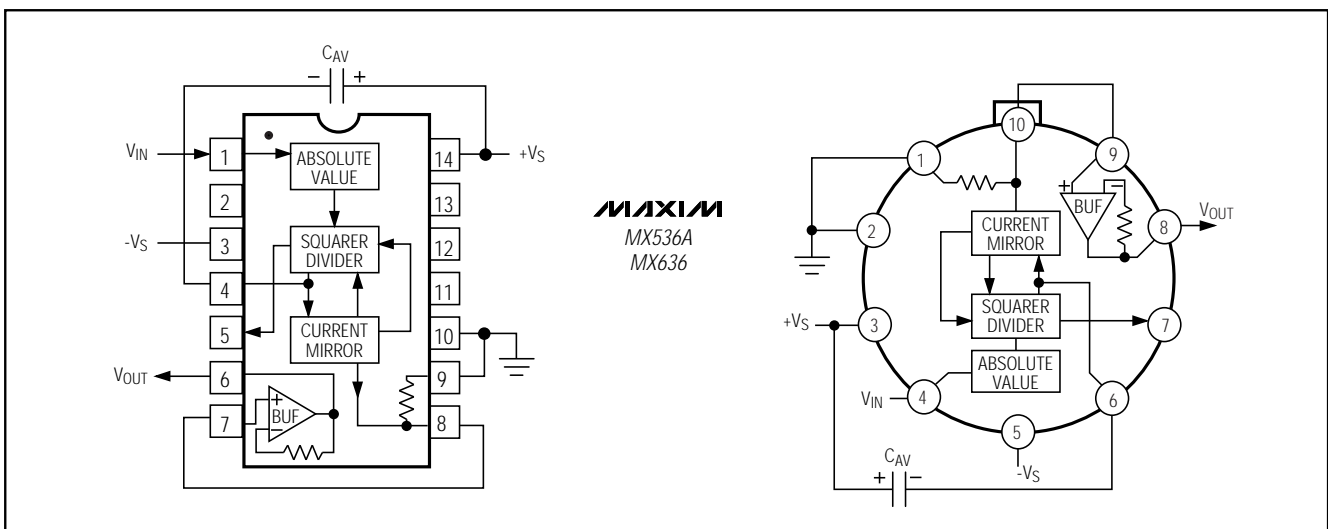

Figure 2. MX536A/MX636 Standard RMS Connection
- Note 1:** Accuracy is specified for 0 to 7VRMS, DC or 1kHz sine-wave input with the MX536A connected as in Figure 2.
### Standard Connection (Figure 2)